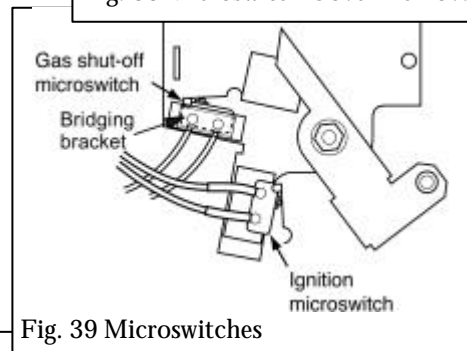

Fig. 39 Microswitches
14.1.3 Disconnect the leads from the ignition microswitch (The lower of the two microswitches - See figure 39).
14.2.4 Detach the bridging bracket, microswitch assembly and insulation pad by removing two screws (see figure 39).